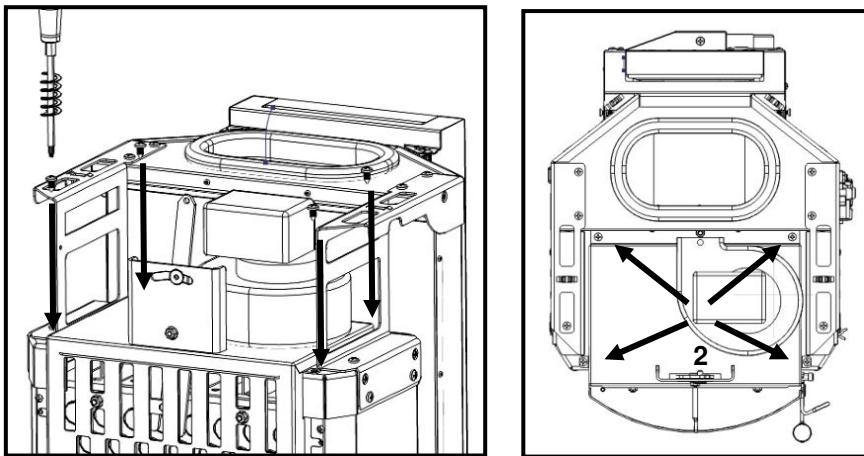

Figure 110 – Fixing the ventilator to the equipment
f) Remove the rear lid from the unit's chassis marked in Figure 110, by cutting the identified areas using a pair of pliers.